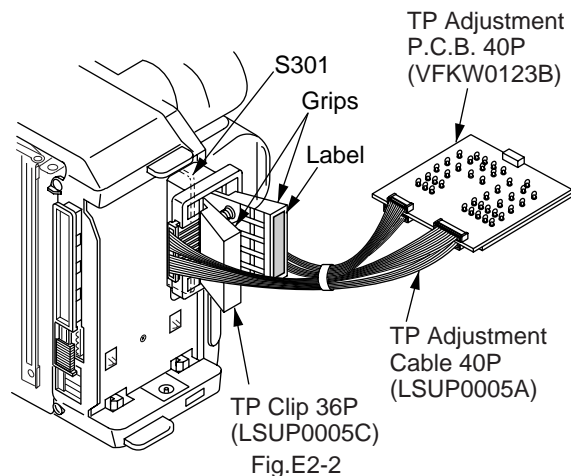

Fig.E2-2
4. Connect the TP Board Kit to S301 on the camcorder as shown in Fig.E2-2. Refer to "How to use TP Board Kit" in "Service Notes," page 1-24.
When inserting the TP Clip to S301 on the camcorder, pinch the grips and be sure that the label is set to the right side as shown in Fig.E2-2.